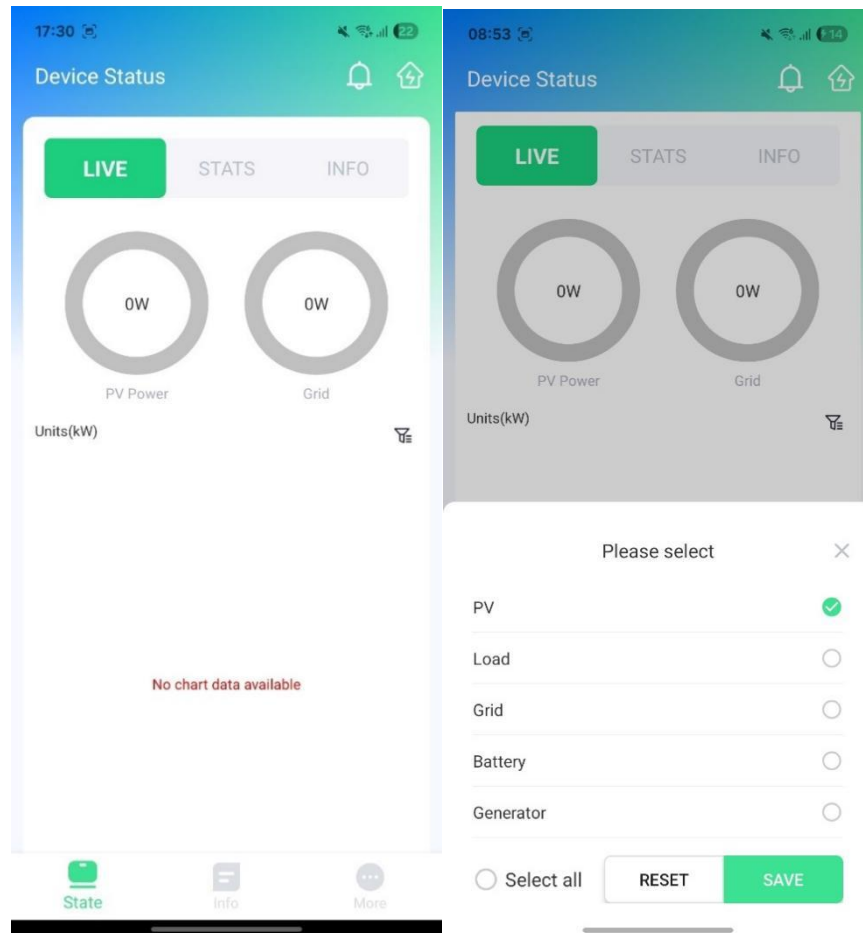

Fig. 3.10 Real-time Data
4."Battery": Current battery charge value. You can click on any of these parameters to view a graph showing the electricity consumption or generation for that parameter during the selected time period. You can slide and zoom on the graph for a closer look. This functionality is also available in the "Statistical" data. The real-time data interface is shown in Fig. 3.10.